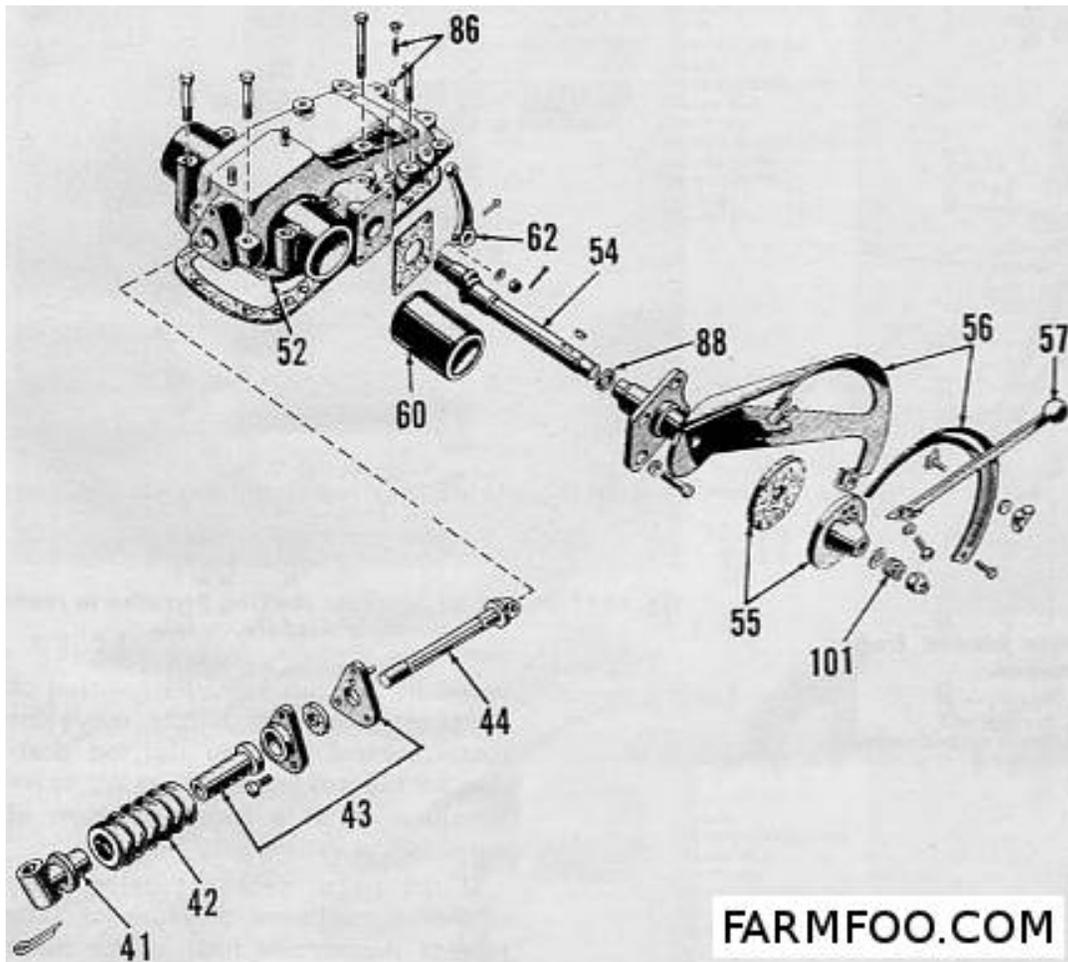

Fig. F086 - Model 8N lift housing cover (52), touch control lever (57), control spring (42) and related parts. Refer to Fig. F087.
110. **DISASSEMBLE AND OVERHAUL.** Procedure for disassembly of the lift cover assembly is self evident by an examination of the unit and reference to Figs. F086, F087, F088, F089, F090 and F091. The general order of disassembly is the ram cylinder (50), piston connecting rod (47), touch control lever (57), linkage for constant draft control rod (73), position control lever, and linkage, quadrant, control arm, lift arms (59), lift arms shaft (45) and bushings (60).